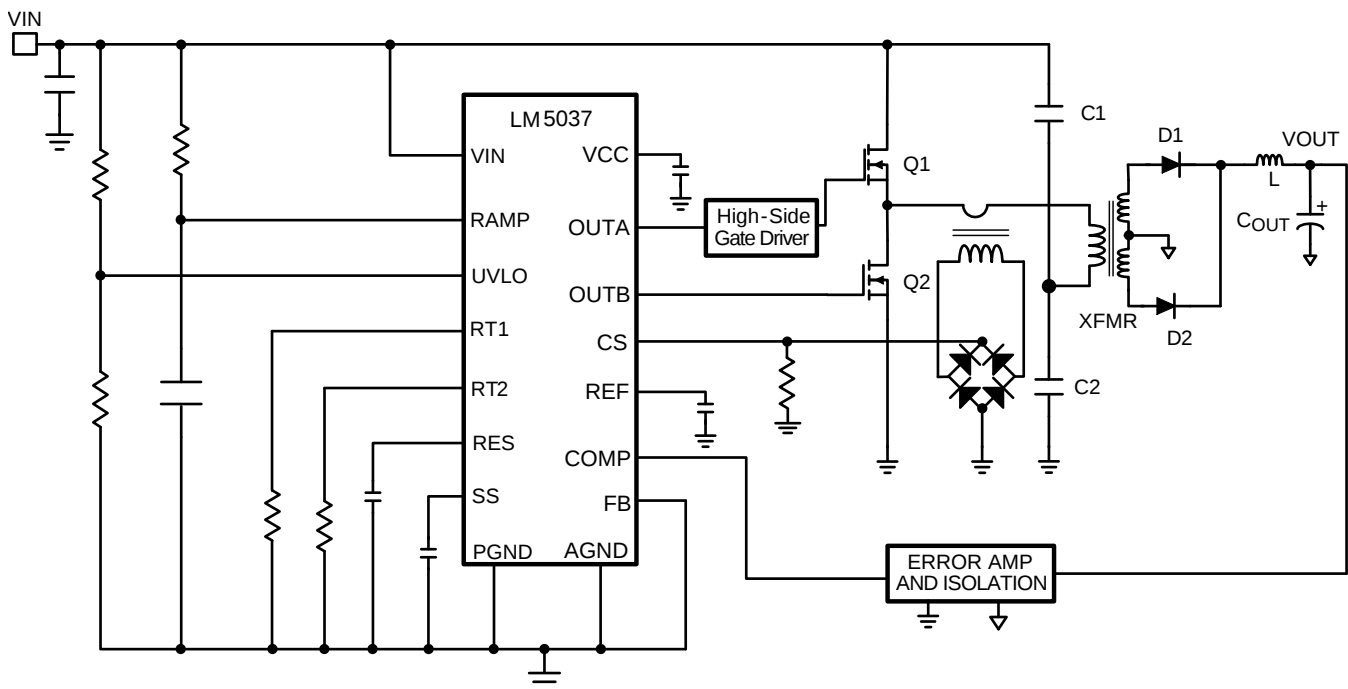

Figure 1. Typical Half-Bridge Circuit
The half-bridge topology belongs to the family of buck converter topologies. The main difference between a buck topology and half-bridge topology is the use of a transformer to isolate the primary and secondary. However, in a half-bridge topology both step-up and step-down of input voltage can be achieved by adjusting the turns ratio of the transformer. Figure 1 illustrates the circuit arrangement for half-bridge topology. The capacitors C1 and C2, which form one-half of the bridge, are arranged in series such that the mid-point is at half the input voltage. The other half of the bridge is formed by switches Q1 and Q2. Switches Q1 and Q2 are turned on alternatively usually with a fixed dead-time. Each cycle, when a switch is turned ON, the primary of the transformer sees one-half the input voltage across it. The LM5037 evaluation board's transformer primary has 4 turns and the secondary has 2 turns resulting in a 2:1 step down of the voltage applied across the primary. The transformer secondary voltage is then rectified and filtered with an LC filter to provide a smooth output voltage. For an output voltage of 5.0V the composite duty cycle (D) of the primary switches varies from approximately 66% (low line) to 31% (high line).